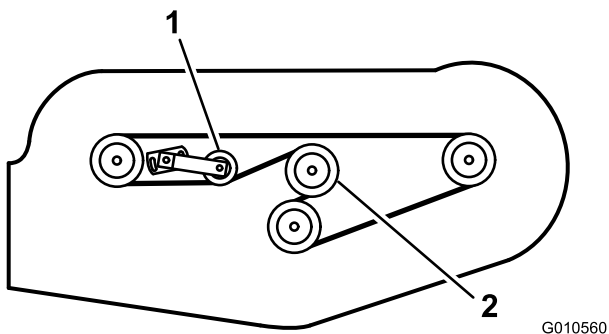

Figure 31
6. Install the new belt around the gear box pulley, spindle pulleys, stationary idler pulley, and adjustable idler pulley (Figure 31).